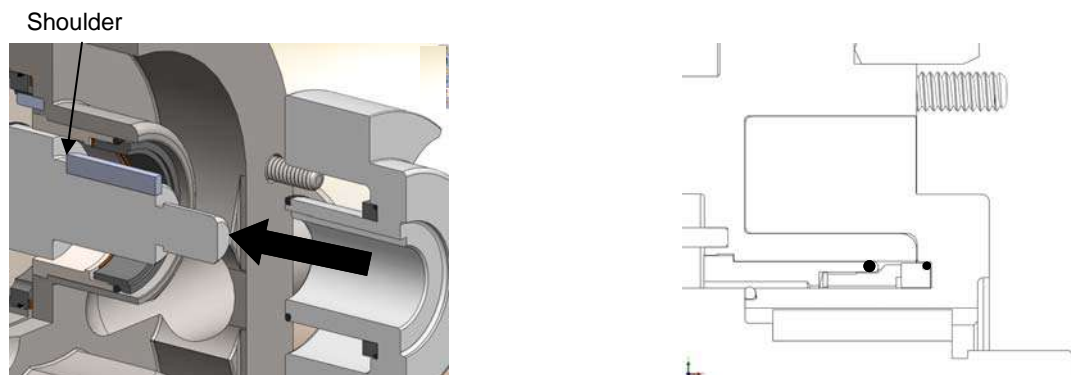

Figure 31: Rotor Assembly
5) Insert a rotor key in the keyway on the shaft. Slide the rotors onto the shafts until they seat against the shaft shoulder (Figure 31).